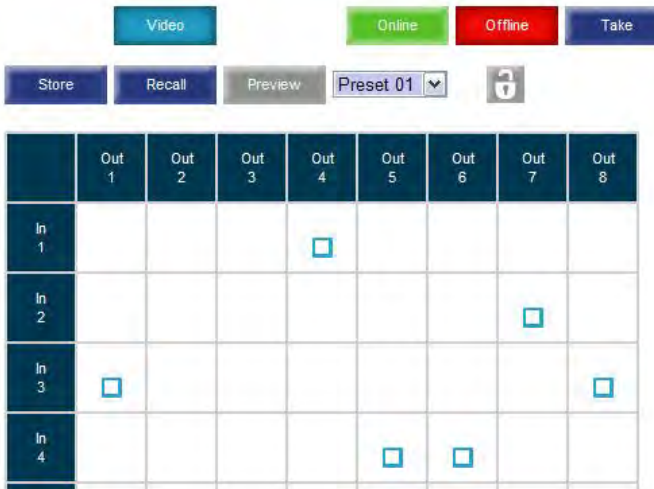

Figure 19: Recalling a Preset in Offline Mode
**Note:** You can also recall a preset in the Offline mode (see Figure 19) and make it active when you press the **Take** button (see Section 8.2.2).